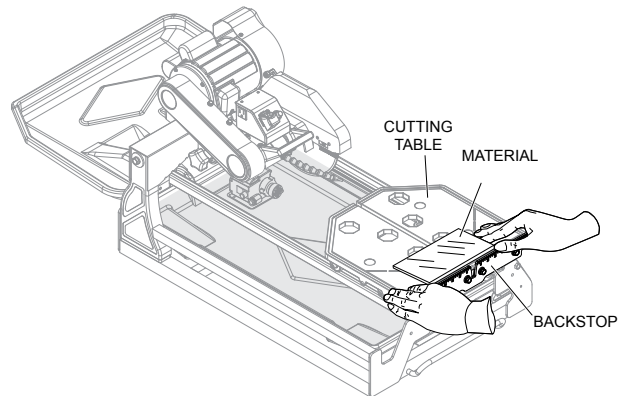

Figure 15. Material Placement
1. Place the material to be cut (Figure 15) on the cutting table against the backstop.